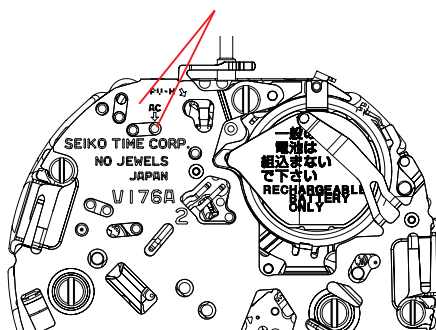

Fig. 1
- Short-circuit by touching the AC pattern and the rechargeable battery guard with tweezers (refer to the Fig. 1).